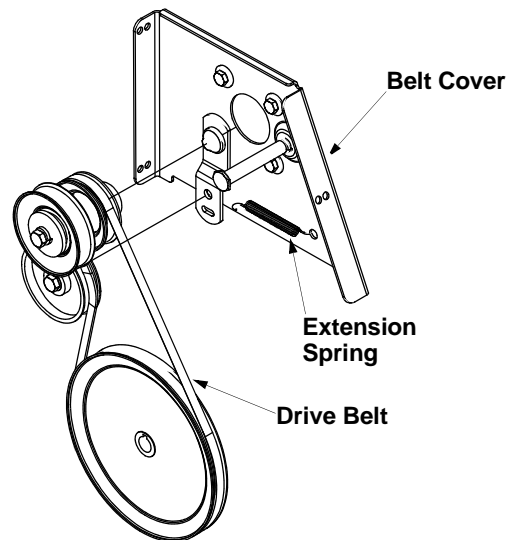

Figure 23
- Unhook the extension spring from the belt cover plate. See Figure 23.